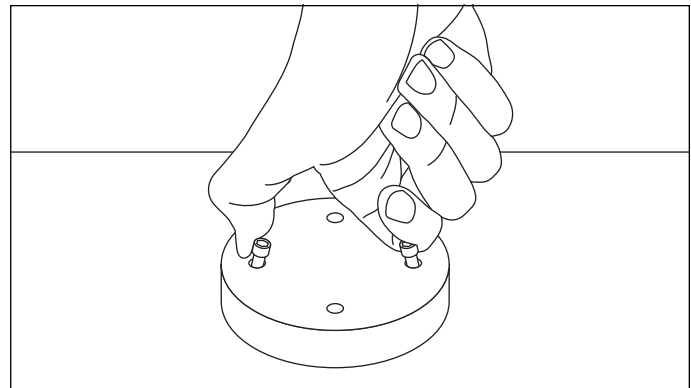

Figure 5.3: Piston cap removal
3. Loosen the piston cap bolts and remove the piston cap as shown in figure 5.3 by pinching two loose bolts together.
3. Remove the piston cap by loosening and removing the socket head bolts holding the piston cap to the piston (see figure 5.3).